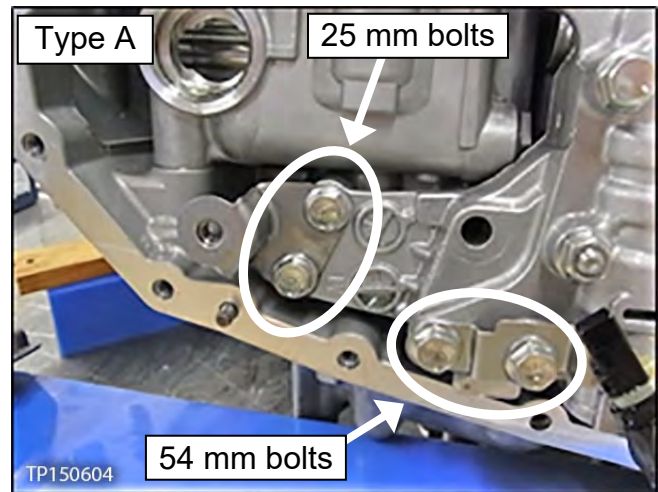

Figure 32
- a. Remove the two (2) 25 mm oil strainer bracket bolts, and then remove the oil strainer bracket (see Figure 32).